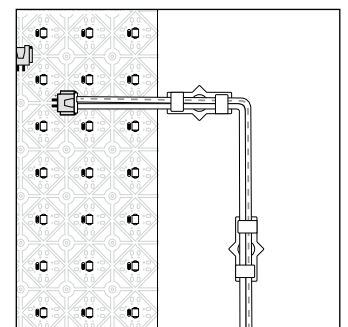

Figure 14
- Mount Cable Management Clips (sold separately) and route the power cable so that the wires do not cover any LEDs (figure 14).